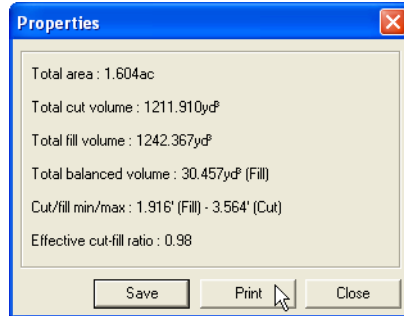

Figure 9-5. Print Plot Properties As Text File
1. Click **Cut/Fill ► Plot properties** (Figure 9-5).